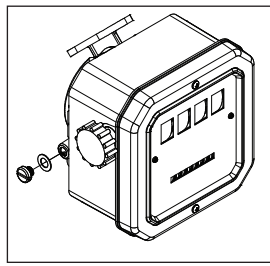

Figure 4
- a. Gain access to the recessed calibration screw by turning the calibration screw cover and seal counterclockwise. Remove the cover and nylon washer. (Figure 4)